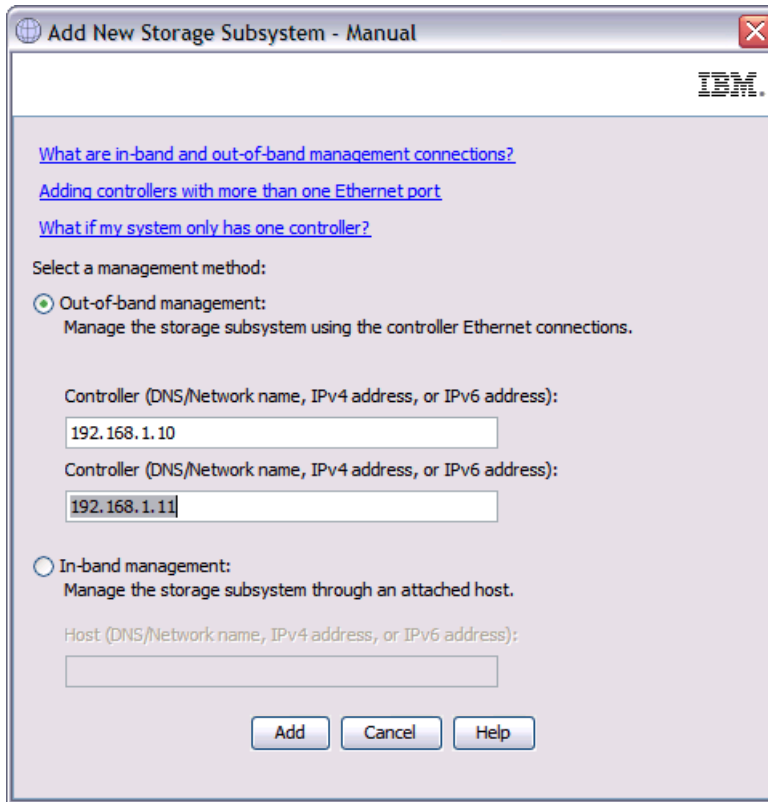

Figure 5-27 Out-of-band management
- When using the Out-of-band management, select Out-of-band management and enter the IP addresses of both the controllers as shown in Figure 5-27.